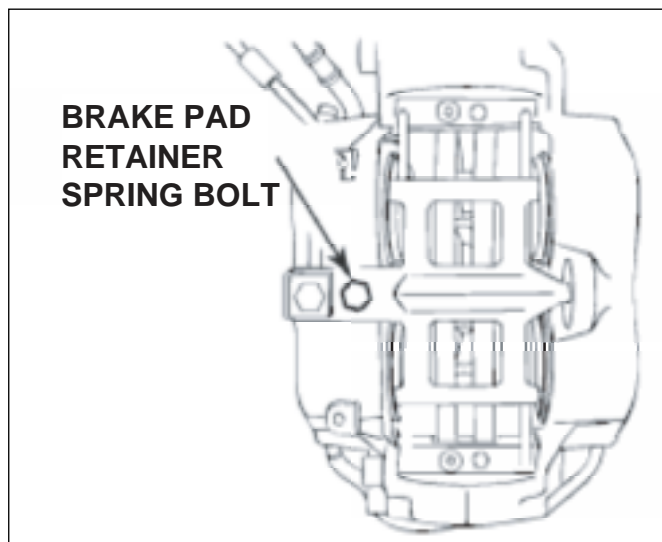

Fig. 5-3. Pad retainer spring bolt
4. Remove the pad retainer spring bolt, figure 5-3.